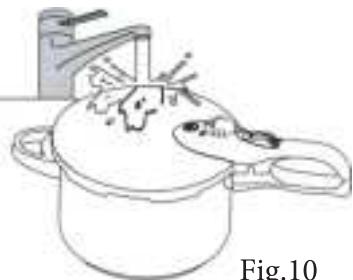

Fig.10
2. Cooling down quickly. Sometimes it needs cooling down quickly, put the cooker on a level place and shower the cooker with cold water slowly till the safety valve falls down (Fig. 10, opening lid is the same as above).